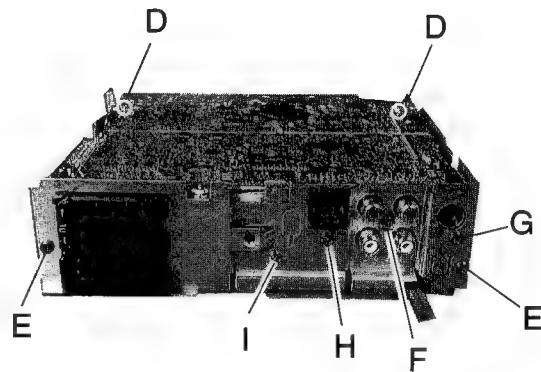

Fig 7
■ Removing the rear brackt (See fig7)
■ Removing the Reel Disk Assembly (See Fig. 7)